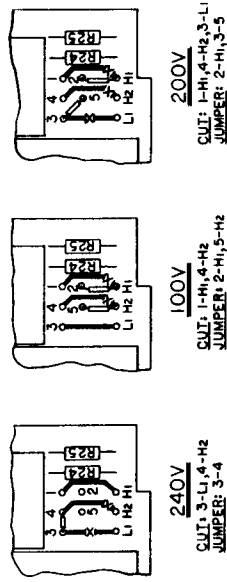

FIGURE 2-4. AC POWER CONFIGURATION, MAIN BOARD
f. Place self-adhesive label (6) showing input type on desired side of reversible lens (either °C or °F display) as shown on the indicator assembly drawing. Self-adhesive labels for all available thermocouple types are supplied with the indicator.
2.3.2 AC Power Configuration. The instrument can be reconfigured for a different AC power voltage by modifying the main board PCB in the area adjacent to the AC input terminal block. (First remove the PCB assembly per instructions in 2.2.1.1.) The standard power configuration is for 120 VAC which requires no jumpers or cutting of clad on the PCB. Other power configurations require the addition of jumpers and the cutting of clad on the PCB as shown in Figure 2-4.